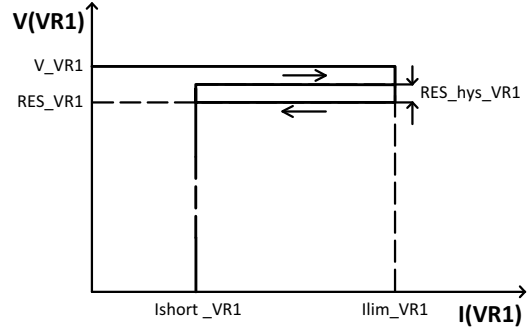

Figure 7. VR1 current fold-back
- ◆ VR1 Current Limitation – the two-level current limitation controlled by VR1 reset comparator to reduce the power dissipation in case of shorts to ground by the current fold-back (see Figure 7)